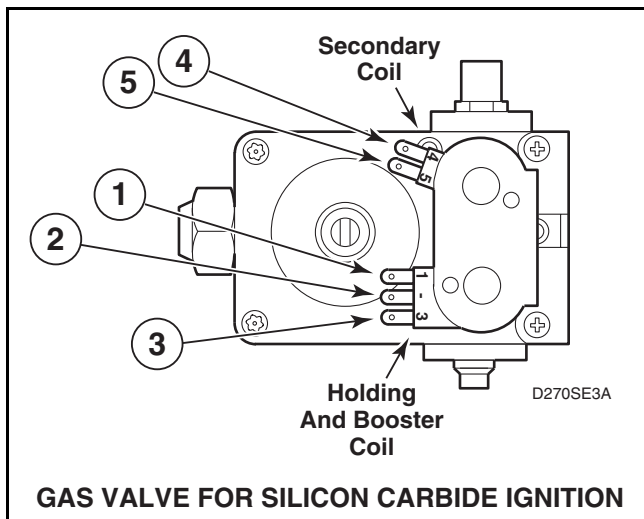

Figure 15
- d. Remove valve wire harness disconnect block from the holding and booster coil. Refer to *Figure 15*.
- e. Set test meter to read Ohms and put meter probes to terminals shown in *Figure 15*, and in the following chart.